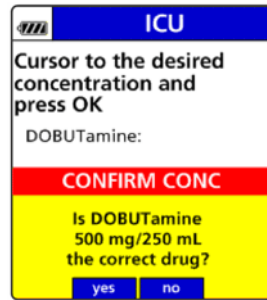

Figure 33. Confirm Concentration Screen.
7. Once a concentration is selected, confirm the selected drug concentration. See Figure 33.